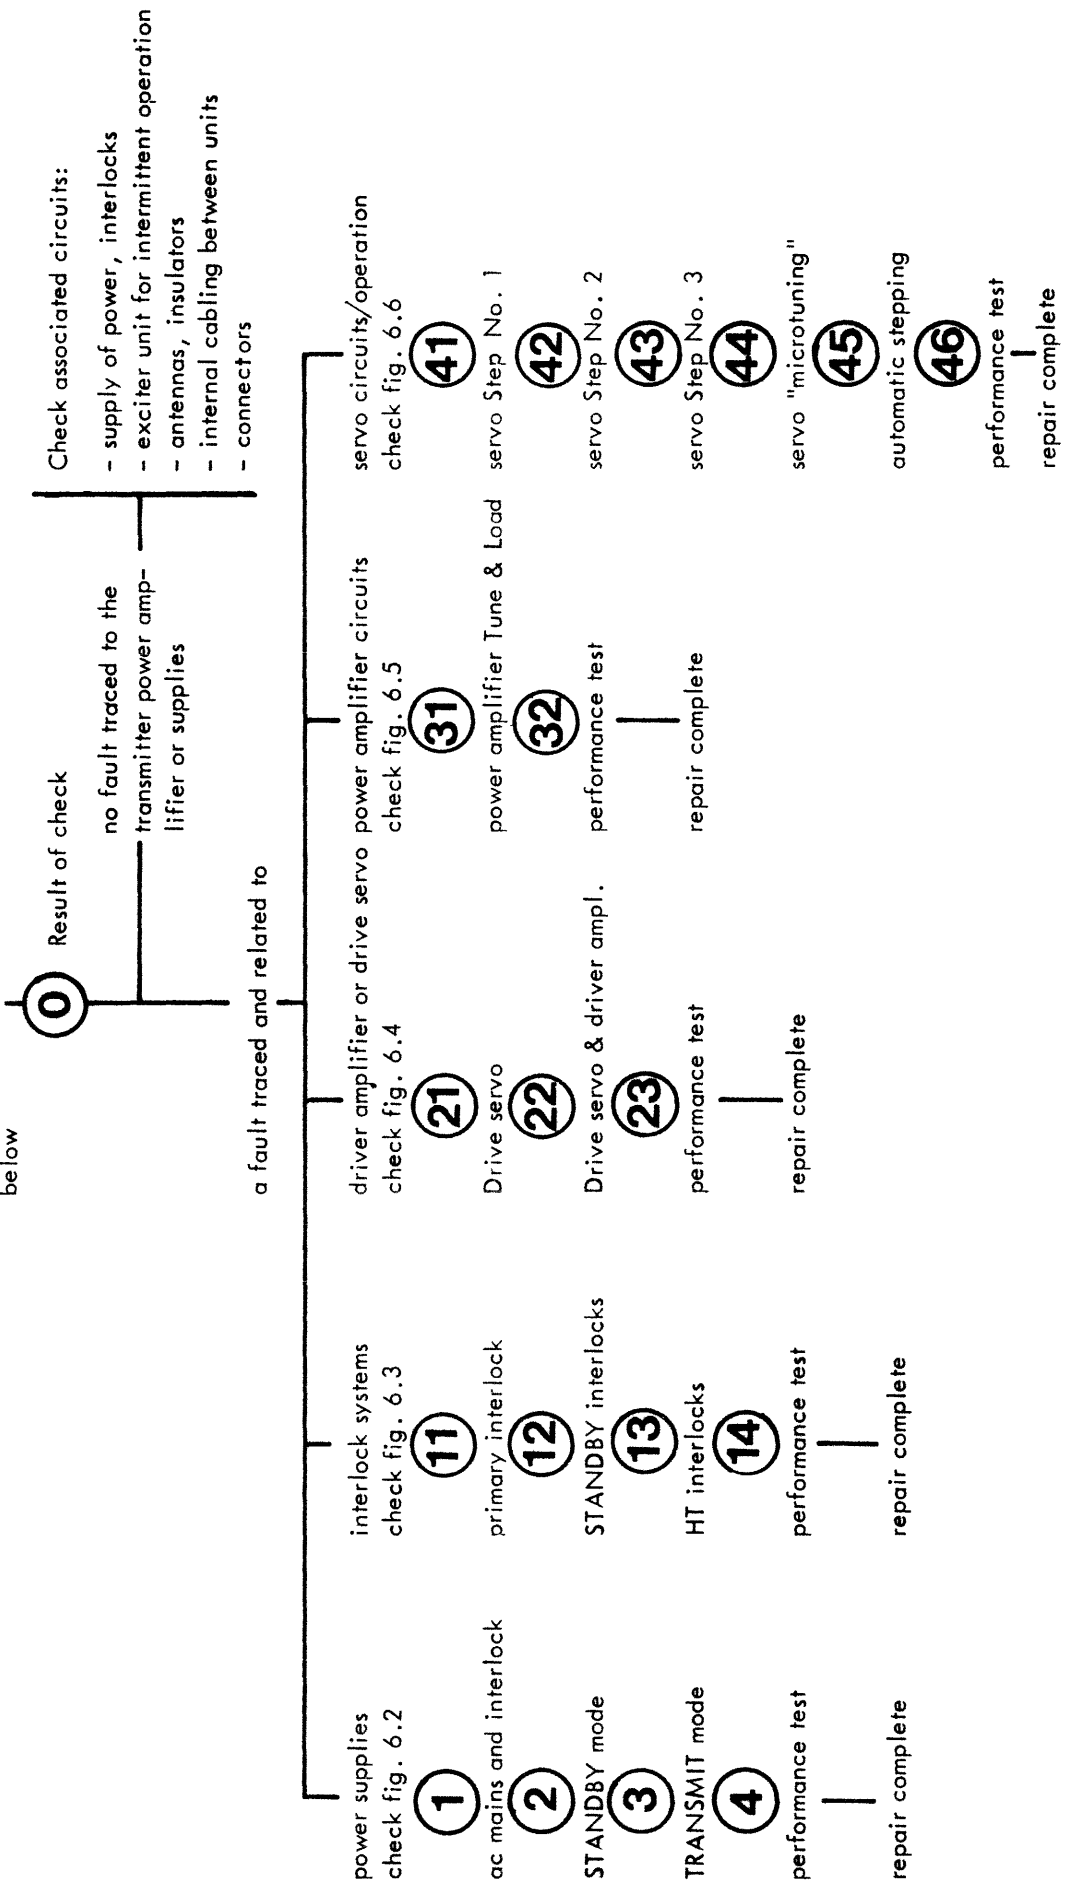

Figure 6.1 - REPAIR SEQUENCE GUIDE
- b. Carry out performance tests, as indicated in para. 5.8. Enter the results of the test in figure 6.1 to determine how to proceed.